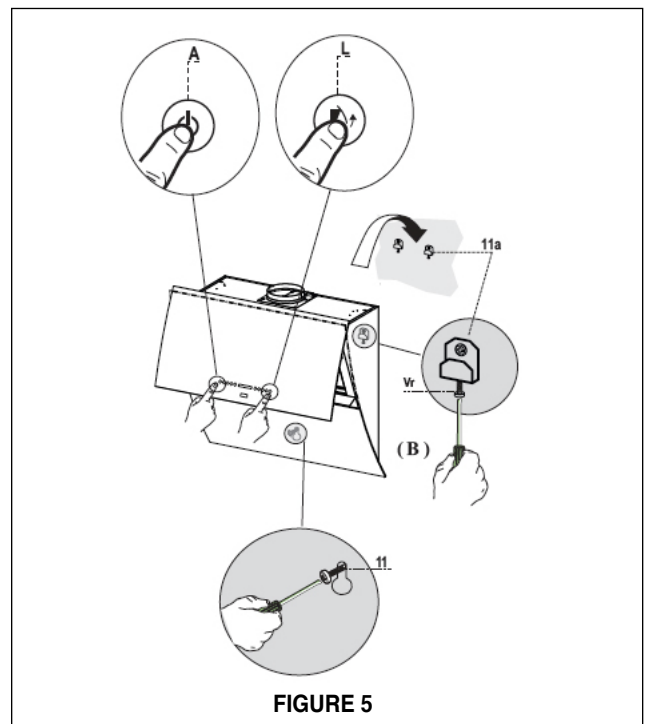

FIGURE 5
1. Adjust the two screws on the mounting hardware (B in FIGURE 5) to the lowest point
5. From the inside of the hood, adjust the mounting screws to make the hood level (B in FIGURE 5). Install safety screws (11 in FIGURE 5) and reinstall the grease filters and close the upper panel